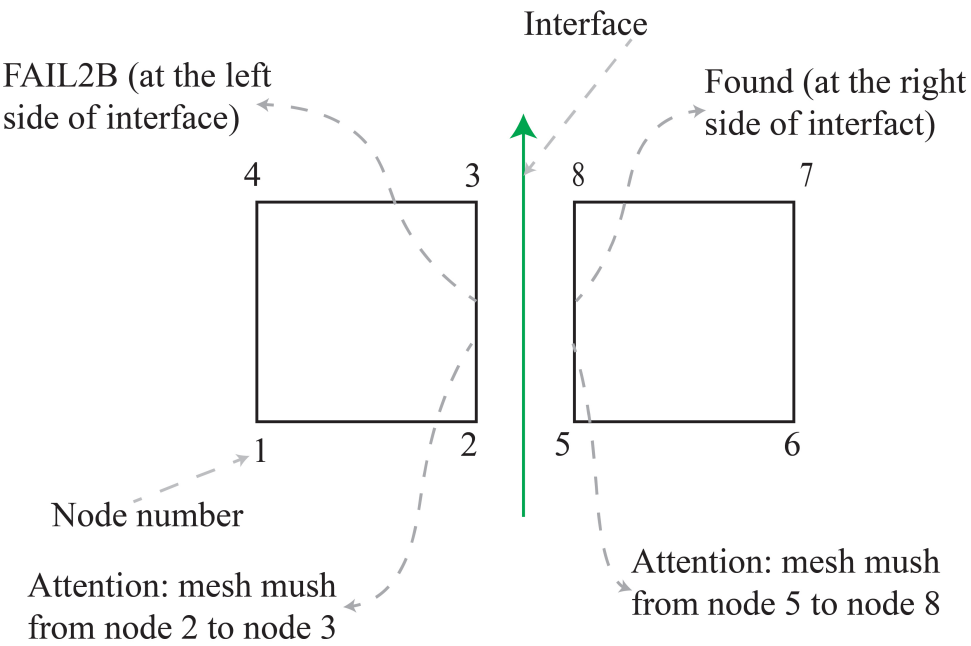

Figure 6.2
Note that: the nodes at the interface should be defined twice at the same places, see Fig. 6.2.
6. Now, set the interface boundary. Click **New** → *select Type 7(Foundation)*, click on boundary id 8 (this is the one at the right side of the interface, see Fig. 6.2) and click OK. **Special note:** the mesh must be from node 5 to node 8 as indicated in Fig. 6.2.